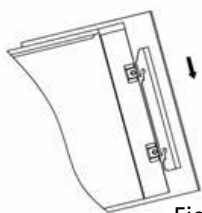

Fig. 6
- Place the front glass surround over the front of the fire aligning the slots in the brackets at each side of the glass panel with the lugs on the sides of the fire-see Fig.6.